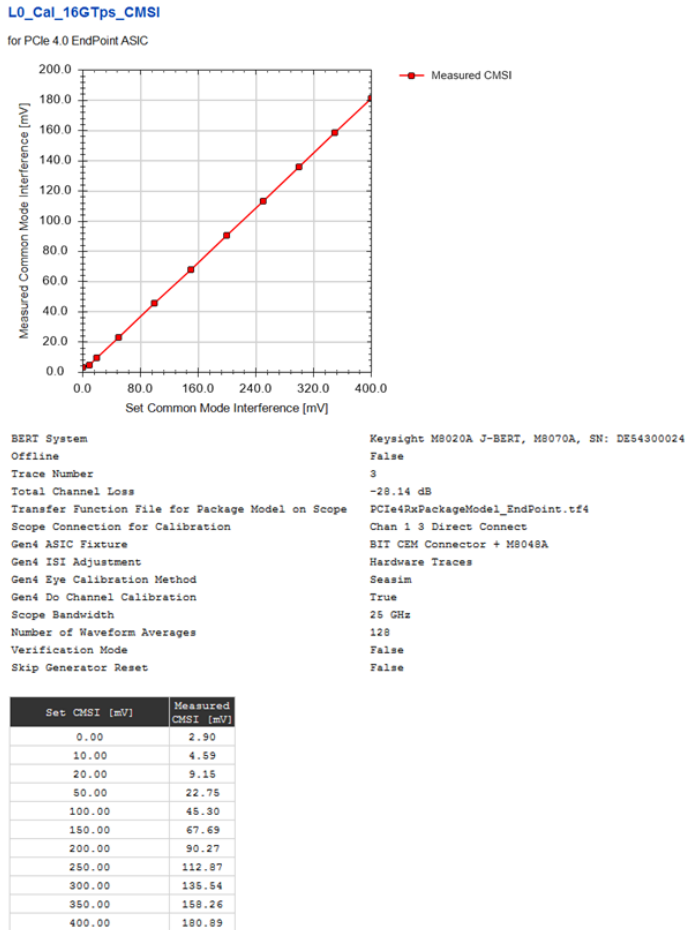

Figure 103 Result Description of CM Sinusoidal Interference Calibration
- An example of HTML worksheet for CM SI Calibration procedure is shown in Figure 103.